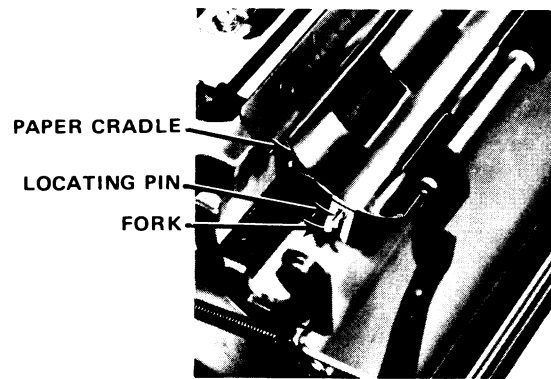

Figure 4-26. PAPER CRADLE
- 4) Check that the paper cradle (Fig. 4-26) is properly positioned with the retaining forks of the cradle positioned over the locating pins.